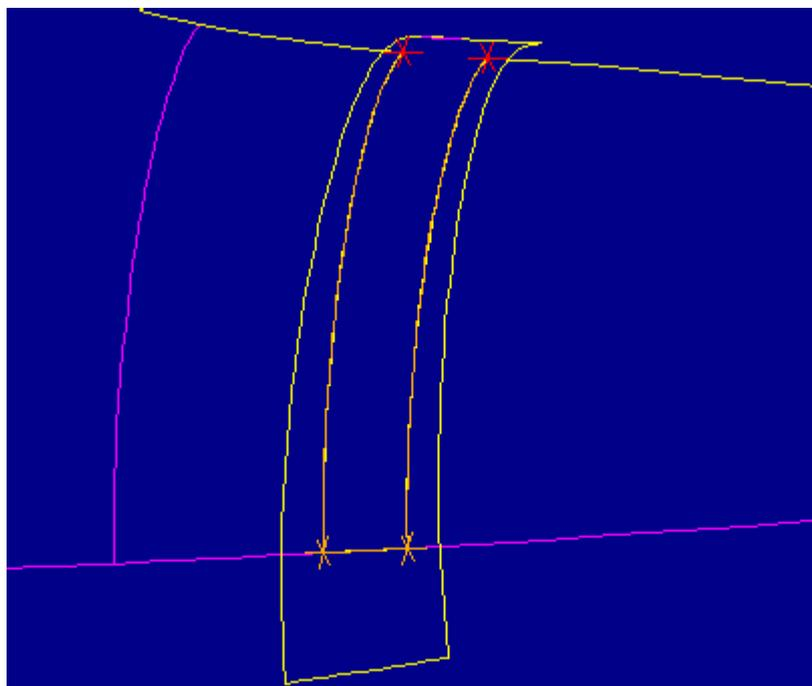
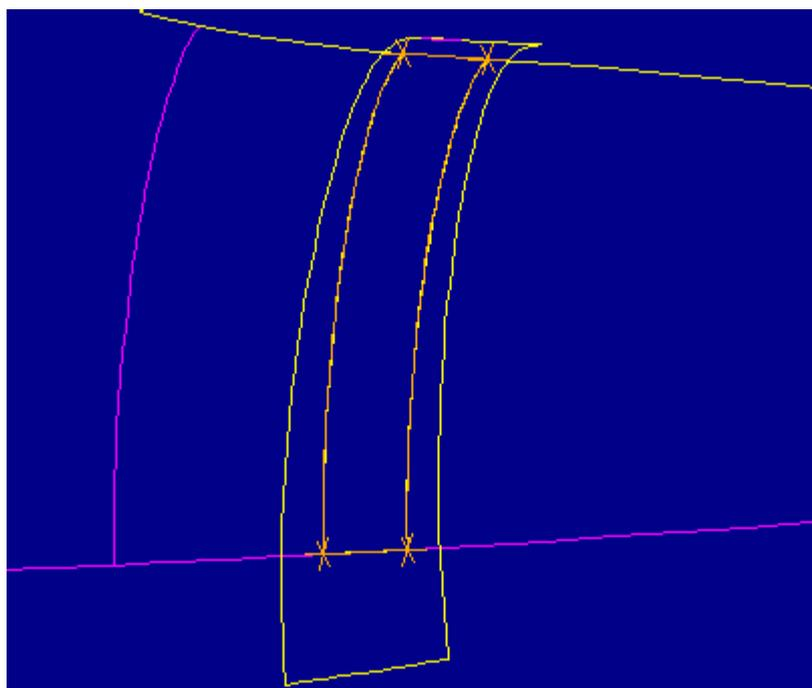

Figure 14
Figure 15
12. In the EDIT BNDRY menu select **Delete**. Select the four segments belonging to the outer loop of orange edges. Figure 14 shows the results. Notice that the original yellow contour of the untrimmed surface is still present. This is the case until the replacement of the original contour with the new orange contour is completed successfully.
13. In the EDIT BNDRY menu select **Create, Connect**. Select the two red vertices at the ends of the orange chain. In the GET SELECT menu select **Done Sel**. Figure 15 shows the orange loop that has just been completed by the addition of the top segment. Notice that the red vertices in Figure 14 are now orange. The ends of chains are indicated by red crosses and internal vertices are indicated by orange crosses.